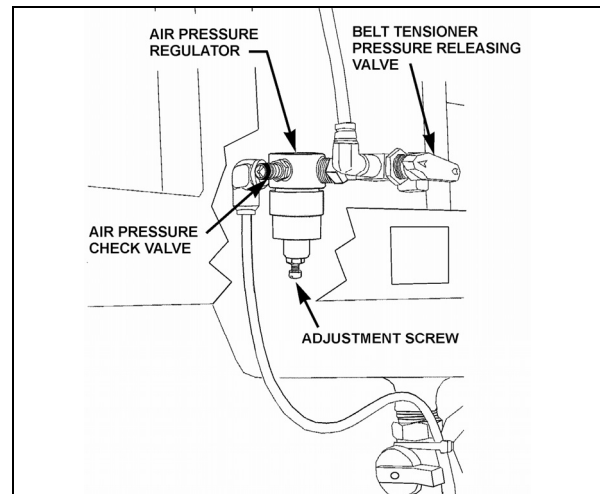

FIGURE 23: BELT TENSIONER VALVE
4. Locate the A/C compressor belt tensioner pressure releasing valve (Fig. 23). Turn pressure releasing valve handle counterclockwise in order to release pressure in belt-tensioner air bellows and loosen belts. Remove the belts.